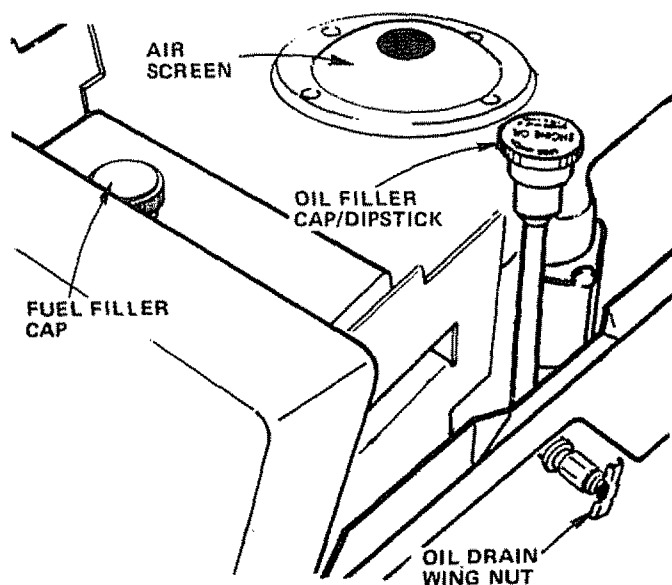

FIGURE 25
- a. Drain Oil with Engine warm. Loosen Oil Drain Wing Nut (Fig. 25) and remove Dipstick. Catch Oil in a suitable container. Tighten Oil Drain Wing Nut.
Air Screen (Fig. 25) must be kept free of dirt and chaff to prevent Engine damage from overheating.